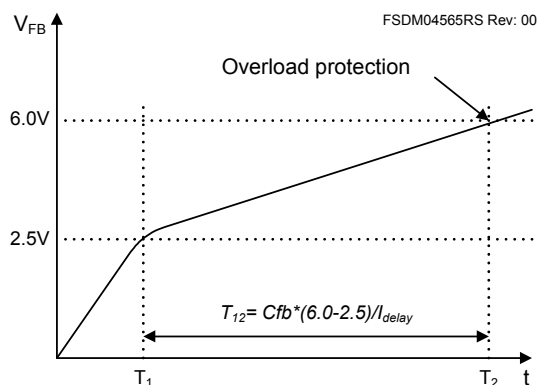

Figure 20. Overload protection
3.1 Overload Protection (OLP): Overload is defined as the load current exceeding a pre-set level due to an unexpected event. In this situation, the protection circuit should be activated to protect the SMPS. However, even when the SMPS is in the normal operation, the overload protection circuit can be activated during the load transition. To avoid this undesired operation, the overload protection circuit is designed to be activated after a specified time to determine whether it is a transient situation or an overload situation. Because of the pulse-by-pulse current limit capability, the maximum peak current through the SenseFET is limited, and therefore the maximum input power is restricted with a given input voltage. If the output consumes beyond this maximum power, the output voltage (V_O) decreases below the set voltage. This reduces the current through the opto-coupler LED, which also reduces the opto-coupler transistor current, thus increasing the feedback voltage (V_{fb}). If V_{fb} exceeds 2.5V, D1 is blocked and the 3.5 μ A current source starts to charge C_B slowly up to V_{CC} . In this condition, V_{fb} continues increasing until it reaches 6V, when the switching operation is terminated as shown in Figure 20. The delay time for shutdown is the time required to charge C_B from 2.5V to 6.0V with 3.5 μ A. In general, a 10 ~ 50 ms delay time is typical for most applications.